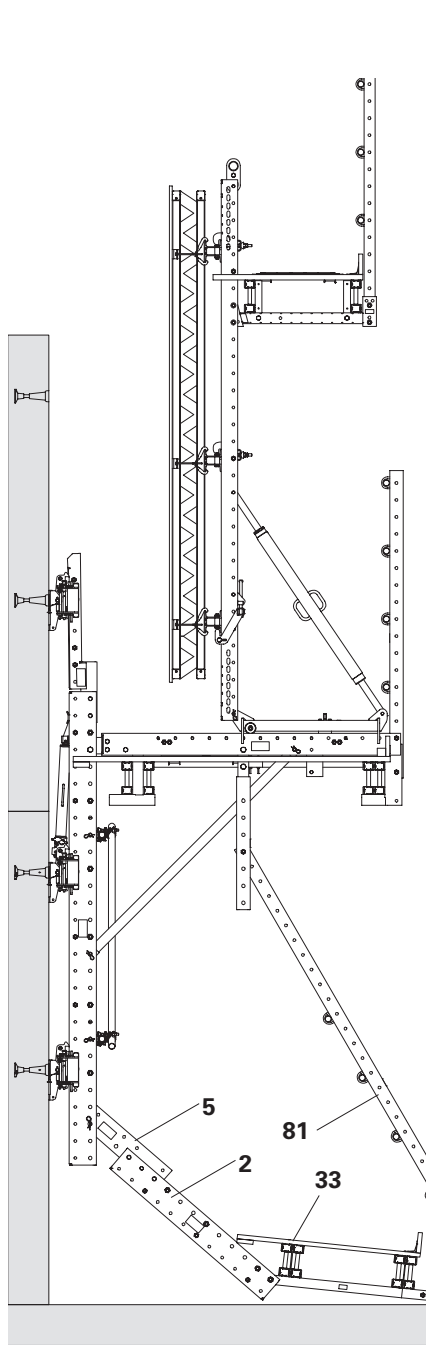

Fig. C4.06
2. Continue the climbing procedure. (Fig. C4.06)